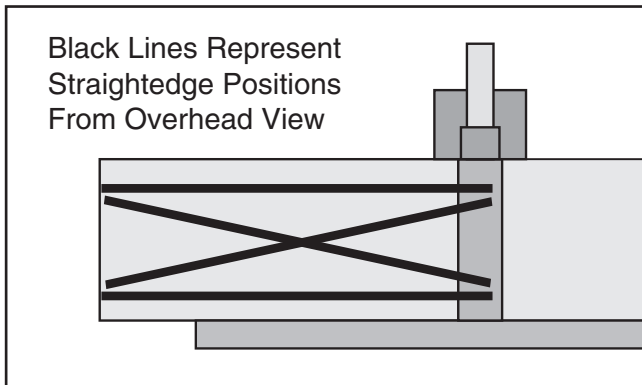

Figure 48. Straightedge positions for checking outfeed table parallelism.
- Place straightedge in one of the positions shown in **Figure 48**.